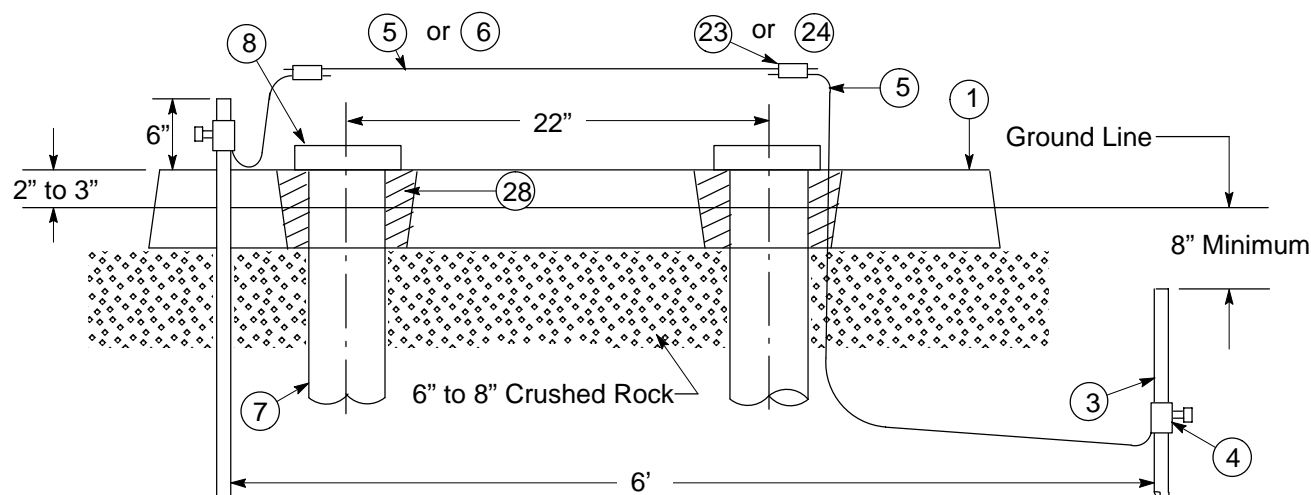

Figure 11
2. Use 3/4" Class 2 Aggregate Base (AB) as necessary when not backfilling with native material.
5. Install an exterior ground rod, and run the ground wire to the pad excavation per Figure 11.
7. Install an interior ground rod and cut the conduits to 1 inch above the surface of the pad. Install conduit end bells and grout the windows per Figure 11. Asphalt or blacktop is not approved for grouting.
8. Ground per Figure 11 and Note 19 on Page 2.